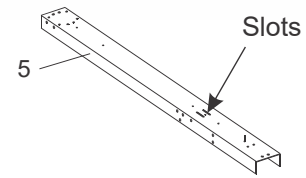

Fig. 7
A) Start by laying the strap end channels out on the ground so that the open ends face down. Notice the two slots on top of each of these channels. You will not be using these slots in the construction of the pool, but pay attention to where they are located in the diagrams. They indicate which way the channels are facing. (Fig.7)